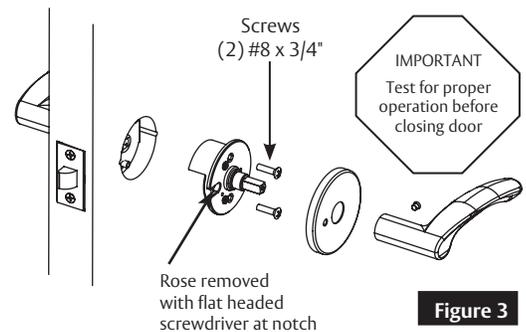

Figure 3
3. Install inside spring housing assembly using (2) #8-32 x 3/4" screws. Note location for set screw, see Figure 3.